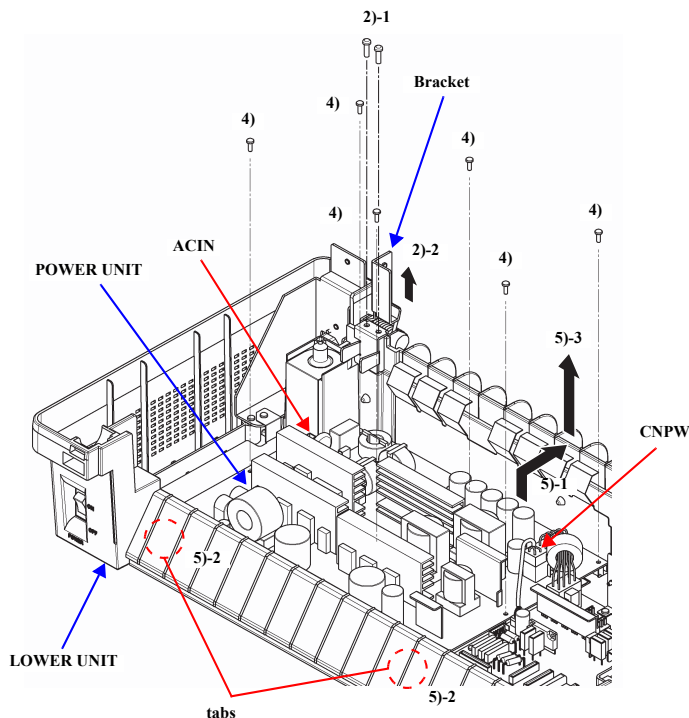

Figure 4-9. POWER UNIT Removal
3. Disconnect the ACIN and CNPW cables (see the arrows in Figure 4-9) from the POWER UNIT.